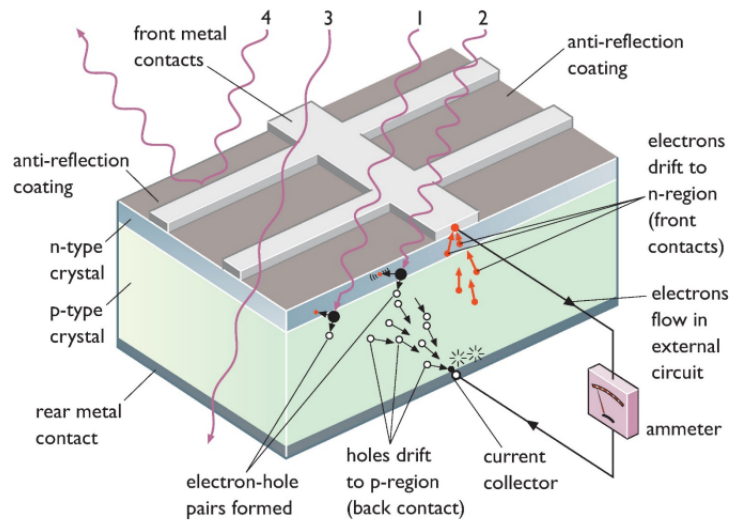

Figure 5: PV solar panel cross section. [2]
- These PV panels (see **Figure 5**) create higher-grade electrical energy compared to thermal solar panels